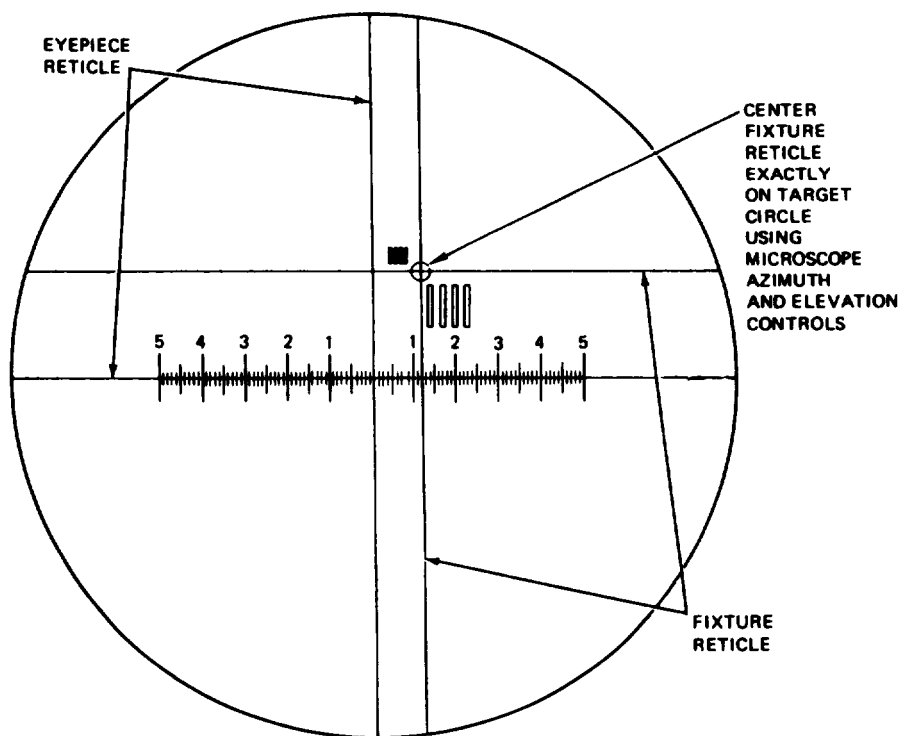

Figure 2-9. Fixture Reticle Alinement
(21) Select MTF target on AN/TAM-3 thermal sight collimator.
(22) Using fixture azimuth and elevation adjustment knobs (3 and 4, figure 2-4), center fixture reticle on target circle as shown in figure 2-9. Tighten azimuth and elevation locks (13 and 12, figure 2-4), noting that the azimuth lock nut requires a 7/8 inch box wrench.